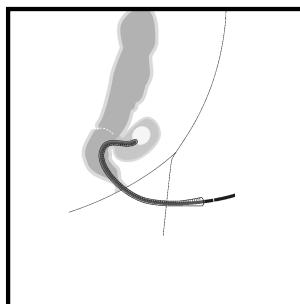

Fig. 2
8. Insert the endoscope and overtube (or rectoscope or proctoscope) carefully into the anal canal using suitable lubricant, and bring it to the level of the leak cavity (Fig. 2).